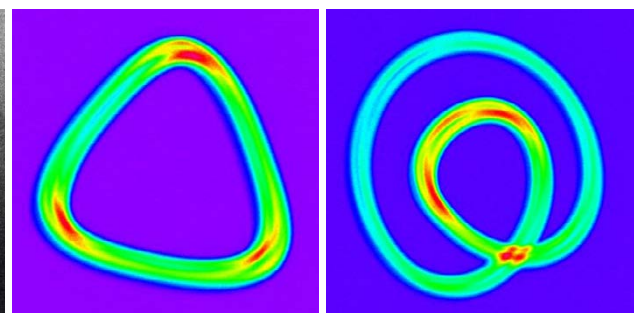

Fig. 4. Beam oscillation patterns for dual-axis beam oscillation: engraving on anodized sheet metal (left) and measured energy distribution (centre and right)
lines and laser beam are fed to the handpiece in an optical fibre. The design of the handpieces varies, particularly with respect to the oscillation of the laser beam. Single-axis movements (at right angles to the feed direction) or dual-axis movements (at right angles to and in the feed direction) (Fig. 3) are possible. The design variant also affects the weight and the dimensions. A variety of parameters can be selected on the laser systems. These include the laser power, operating mode (continuous wave (CW) or pulse mode) and laser oscillation frequency and path, or pattern, and their size in the case of dual-axis oscillation. In addition to circles, complex beam oscillation patterns are also possible to influence the heat input (Fig. 4).